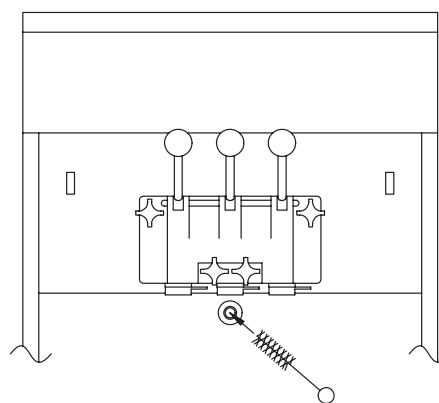

Figure 7-10 Brush inside of drain tube.
4. Using a warm dish detergent solution thoroughly brush; the mix feed tubes from the refrigerated cabinet to the cylinders as shown in figure 6-9, the inside of the cylinders including the back wall, and the inside of the drain tube, as shown in figure 7-10.